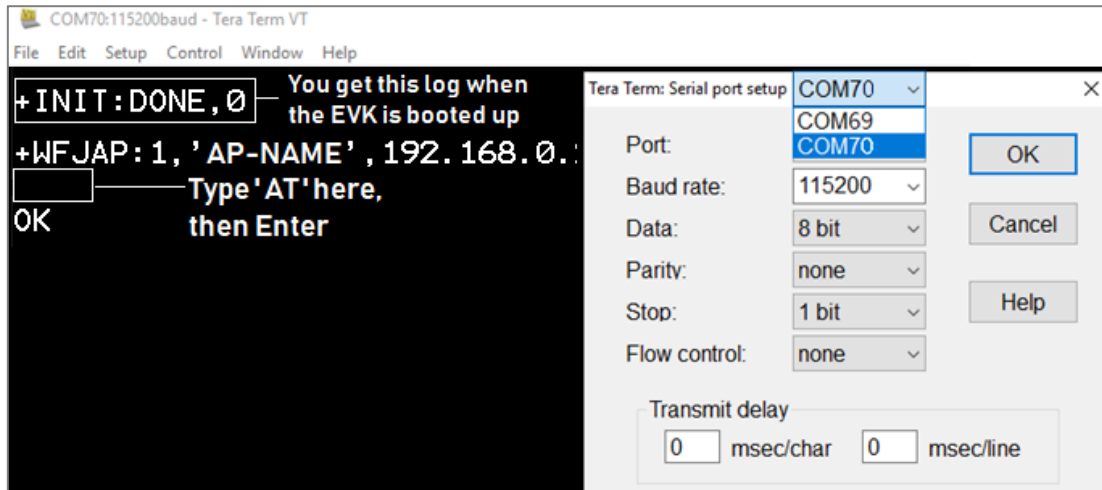

Figure 33: Initial setup to start with AT command
5. Select Setup > Serial Port and configure the UART port with the parameters as shown in Figure 33. Select the higher COM port number as discovered in step 2.